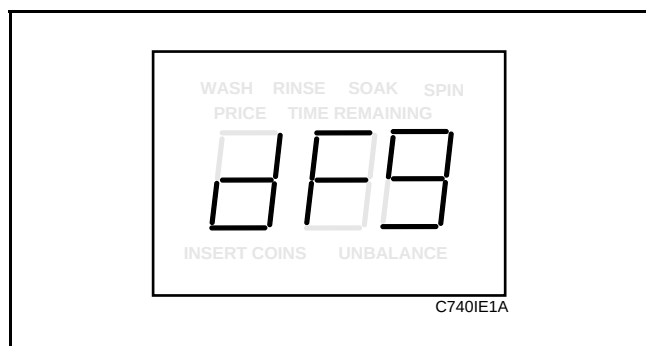

Figure 68
3. Press the DELICATES (+) pad or the COLD (-) pad to scroll through the programmable options until “dFg” appears in the VFD. See **Figure 68**.